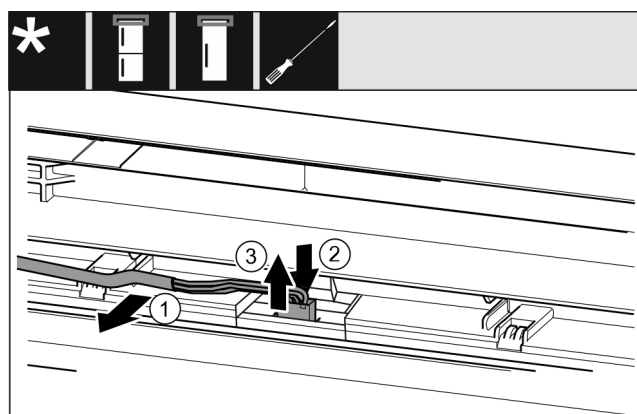

Fig. 7
- ▶ Carefully release the grey cable from the guide in the door. Fig. 7 (1)
- ▶ Push back the lug behind the plug. Fig. 7 (2)
- ▶ Pull out the plug carefully upwards. Fig. 7 (3)